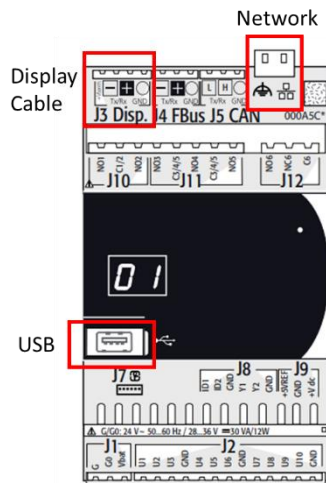

Figure 40: Controller Board
5. Install the display on the HVAC unit. See Figure 40 for cable location.